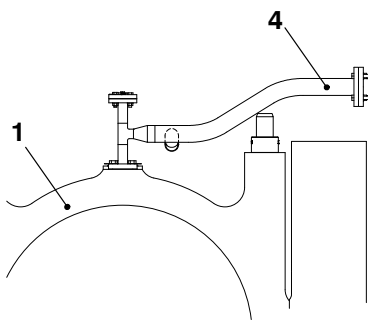

Fig. 10
- 2) Remove oil pipe (4, Fig. 10) from the main bearing cover (1).